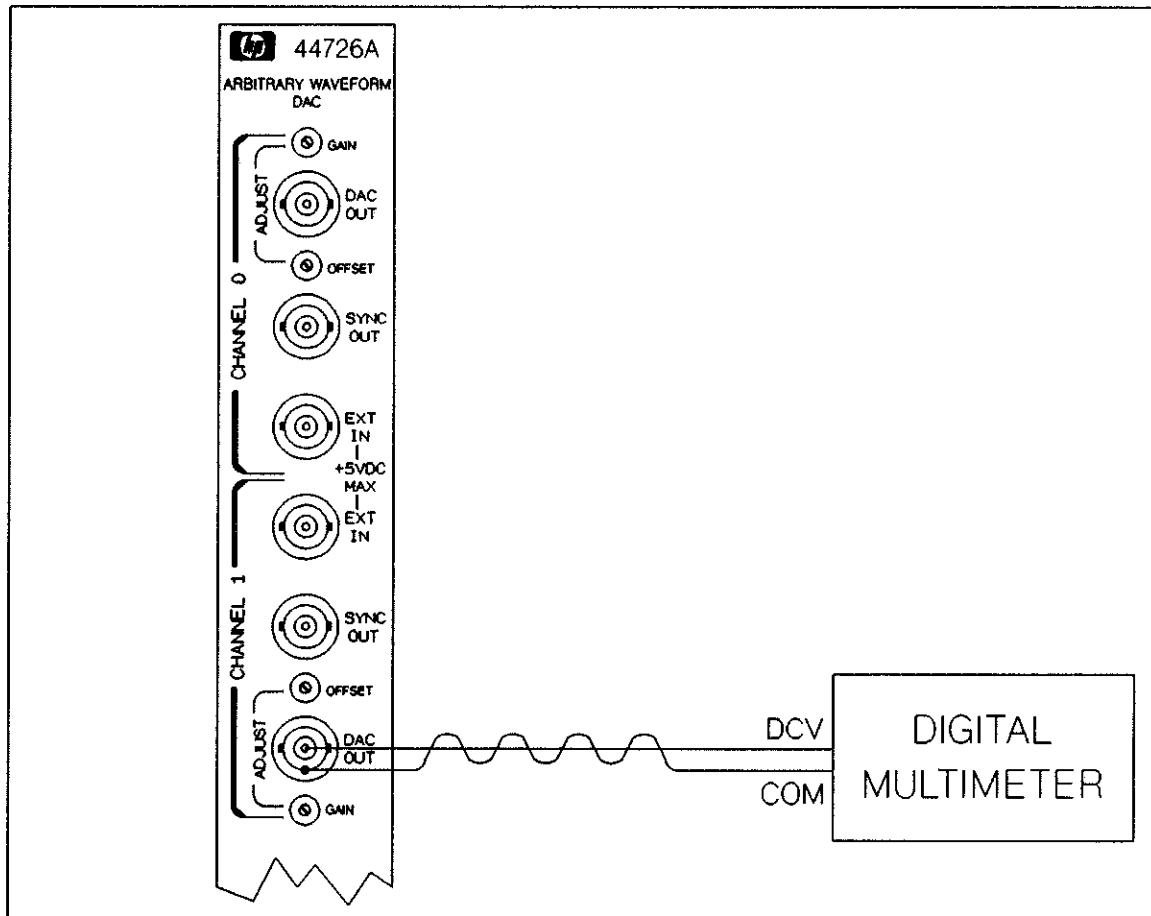

Figure 21-12 Channel 1 DC Volts Test Connection
12. Refer to Figure 21-12. Remove the digital multimeter from channel 0 and connect it to the accessory's DAC OUT connector on channel 1.
8. Refer to Figure 21-12. Connect the digital multimeter to the accessory's DAC OUT connector on channel 1.